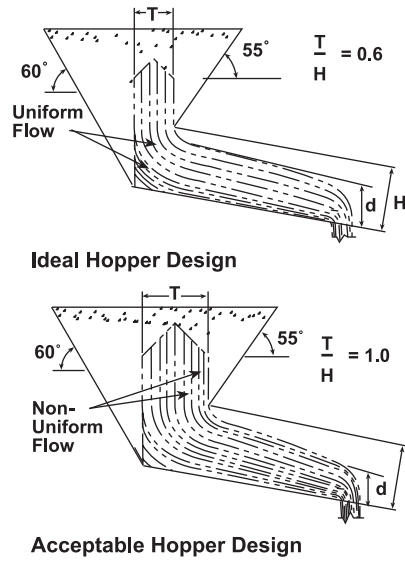

Figure 1. Hopper Design
Figure 1 illustrates Ideal and Acceptable Hopper designs. The Ideal Hopper with a throat (T) to gate height (H) ratio of 0.6 shows a uniform material flow pattern to the feeder trough. Material at the front and rear of the hopper moves at nearly the same velocity, and the discharge depth (d) is nearly equal to the hopper gate height. The Ideal Hopper design allows the most economical feeder to be used.